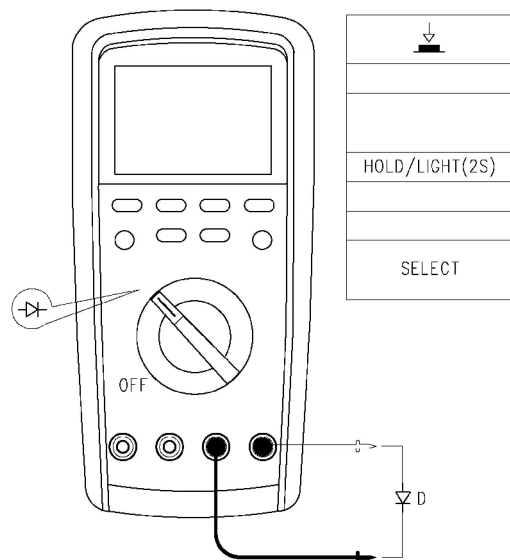

Figure 6
**4. Diode test (see Figure 6)**